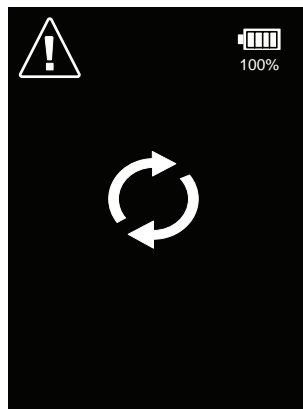

Fig. 16: Sensor clearing message display
- Remove the new sensor (which includes new tip and filter) from its packaging and seat the sensor by aligning the keyway notch in the sensor with the raised keyway on the sensor socket holder (see Fig. 16).